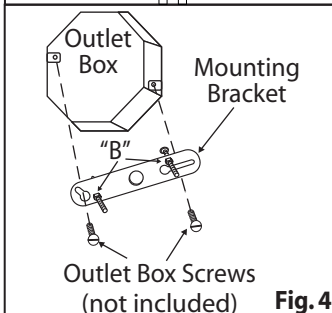

Fig. 4
4. Loosen "B". Adjust stud to desired length and lock in place with "B". Attach the mounting bracket to the outlet box using electrical box screws (not included). (Fig. 4)